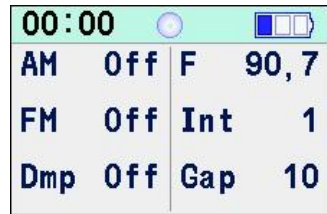

Fig.16
5.3 Then the device switches to the state that displays **basic parameters** (hereinafter called '**B'** state'). So, the basic parameters of stimulation will be displayed (Fig.16).